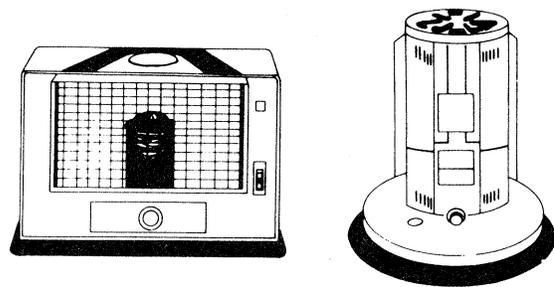

Figure 21. Two types of kerosene heaters.
**Kerosene.** Small portable kerosene heaters (Fig. 21) may be used only as emergency heaters in small greenhouses. If kept in proper condition and used for a short period of time, a chimney vent is not required. However, they do produce fumes that might injure plants, especially those that are sensitive to low concentrations of ethylene such as cucumbers, tomatoes, fuchsias and others.